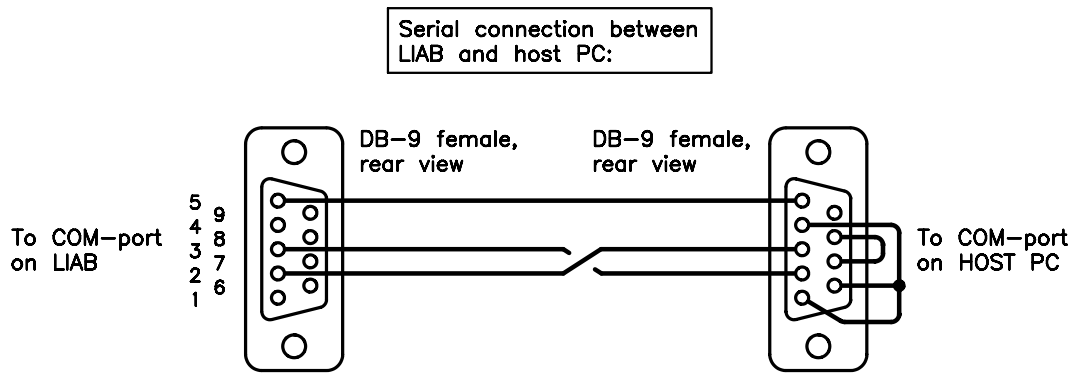

Figure 3.2: Serial communication for the LIAB: connectors and wiring diagram.
- A serial cable. The end to be connected to the baseboard must be equipped with a female DB-9 connector. An appropriate connector for your host computer must be located in the opposite end of the cable. Wiring of a suitable cable is shown in Fig. 3.2.
A suitable serial cable can be purchased in a well-stocked computer shop. Alternatively, you can make one yourself if you have at hand two male DB-9 connectors and a length of cable with three wires. The wiring you need to make is shown in Fig. 3.2